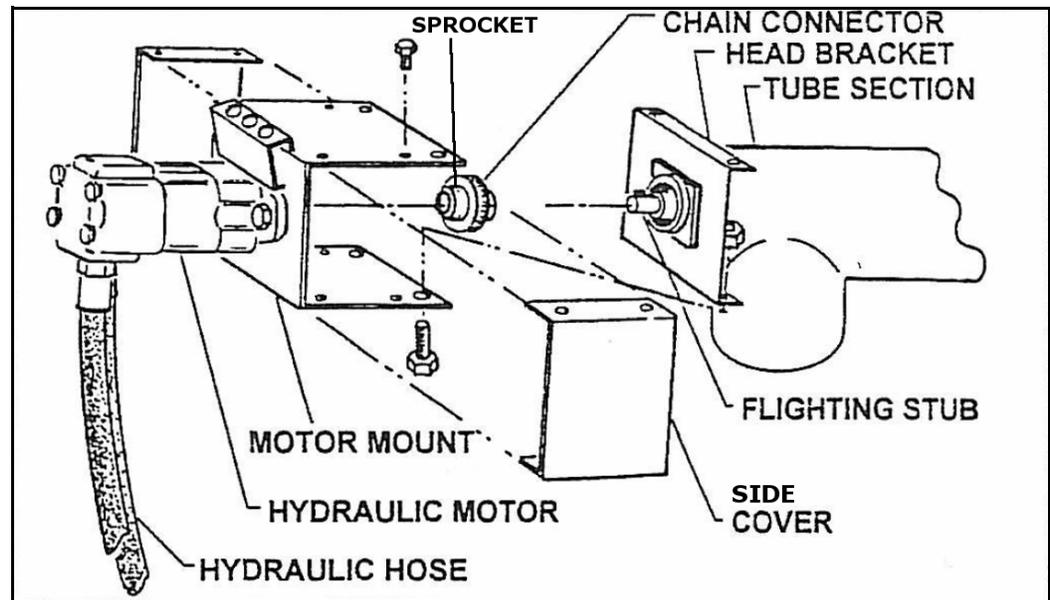

Figure 3.7
1. Remove chain connector (with 1 sprocket) from motor mount assembly (Figure 3.7). Clean paint and dirt from flight stub and inside sprocket hub.